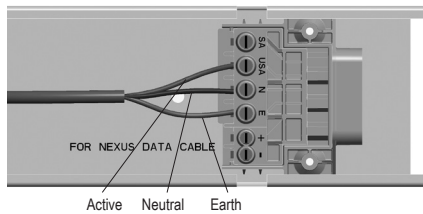

Figure 1: Quickfit Terminal Block Connection
4. Run the cables in the ceiling or wall space as appropriate or surface mounted in conduit and through the cable hole into the bracket. Strip, connect and terminate the cables as indicated in Figure 1. Ensure that the double insulation of the cable/s passes completely into the terminal block enclosure so that no single insulation is exposed when the cover is in place. The hole plug set includes a suitable bush to mechanically protect the cable as it passes through the opening in the mounting bracket. Likewise, the single insulation of the conductors should run right up to the metal edge of the terminals leaving no bare conductors outside of the terminals. Be careful with multi-strand conductors that all of the strands are twisted together before insertion into the terminal. Any stray strands that inadvertently come into contact with their neighbouring terminal or the metal frame of the fitting will cause undesirable results when the fitting is powered.